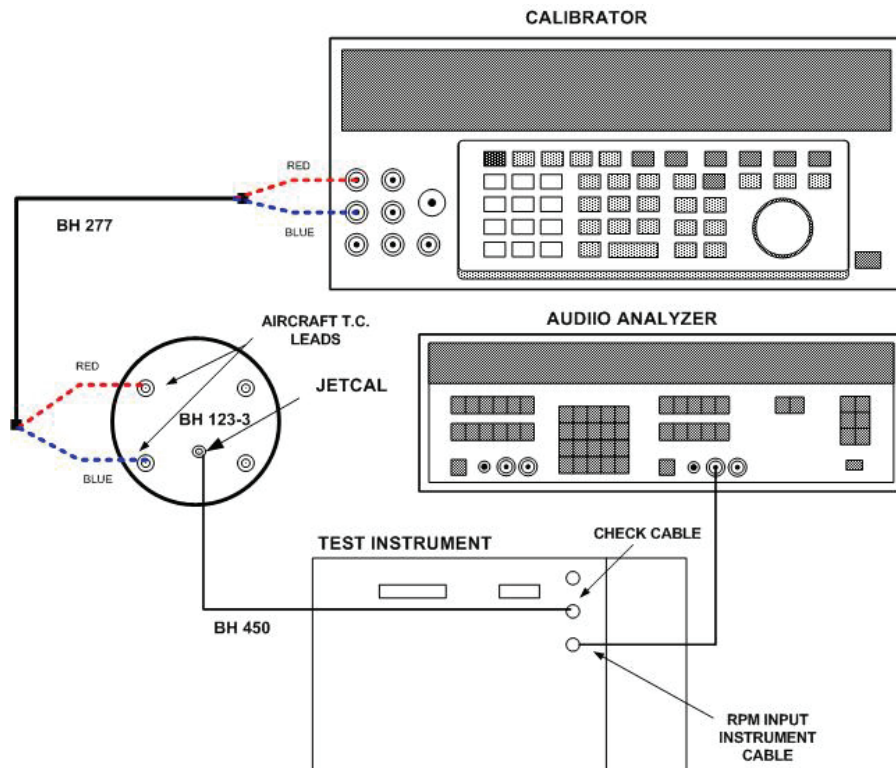

Figure 7. Standard day check.
- (1) Set **STD DAY** switch to **ON** and **TEMPERATURE** switch to **OPERATE**.
- (2) Connect equipment as shown in figure 7.
- (3) Adjust audio analyzer for a 1.0 V, 70 Hz (14.286 ms) output. (Note: Set up 1.0 V output with multimeter.)
- (4) Adjust **AMB TEMP** ( $^{\circ}$ F) control to **49**. If % **RPM** indicator does not indicate between 100.4 and 101.3, perform **b** (1) and (2) below.
- (5) Adjust **AMB TEMP** ( $^{\circ}$ F) control to **-41**. If % **RPM** indicator does not indicate between 110.7 and 111.7, perform **b** (3) below.
(6) Adjust **AMB TEMP** (°F) control to **139**. If % **RPM** indicator does not indicate between 92.6 and 93.6, perform **b** (4) below.
(7) Adjust **AMB TEMP** (°F) control to **59**. If % **RPM** indicator does not indicate between 99.5 and 100.5, repeat **a** (3) through (6) above.
(8) Adjust calibrator output to 0.473 mV dc plus millivolt value equivalent to ambient temperature obtained in table 3.
(9) If **TEMP** °C indicator does not indicate between 0 and 4, perform **b** (5) below.
(10) Reverse leads at calibrator output (fig. 7) (BLUE to HI and RED to LO).
(11) Adjust calibrator output to 33.329 mV dc less millivolt value equivalent to ambient temperature obtained in table 3.
(12) If **TEMP** °C indicator does not indicate between 796 and 804, perform **b** (6) below.
(13) Adjust calibrator output to 16.398 mV dc, less millivolt value equivalent to ambient temperature obtained in table 3.
(14) Adjust audio analyzer for 1.0 V, 63 Hz (15.873 ms) output.
(15) Adjust **AMB TEMP** (°F) control to **99**.
(17) Adjust calibrator output to 24.91 mV dc less millivolt value equivalent to ambient temperature obtained in table 3.
(18) Adjust audio analyzer for 1.0 V, 77 Hz (12.987 ms) output.
(19) Adjust **AMB TEMP (°F)** control to -1.